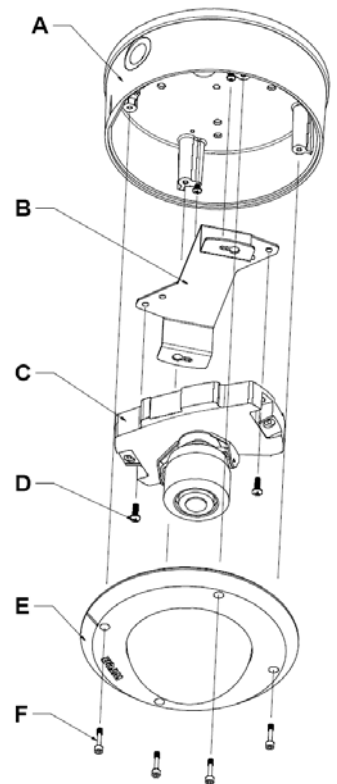

Figure 1
COMPONENT LIST (See Figure 1)
2. Mount the camera into the housing (see Figure 1), positioning the camera such that RJ45 connection is near to the cable access hole. Use the included #10 screws to secure the camera to the housing.
5. Attach the dome assembly to the base housing by tightening the four (4) hex screws using the included hex wrench.